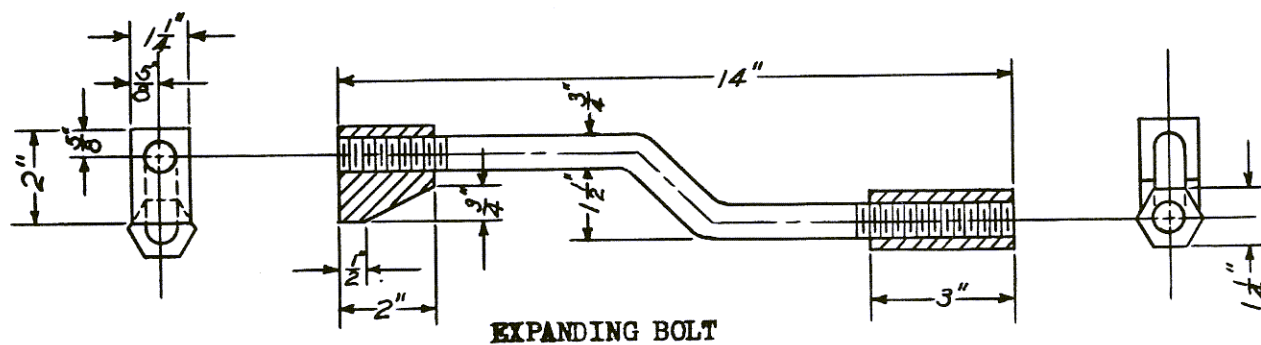

Figure 7
6. Center the gear unit on the axle in relation to the wheels, using special gauge and expanding bolts shown in Figure 6. Tolerance is $1/4"$ either way. Expanding bolts must be placed in position to block gear unit against both wheels so that unit cannot shift off center when remaining parts are applied. See Figure 7.